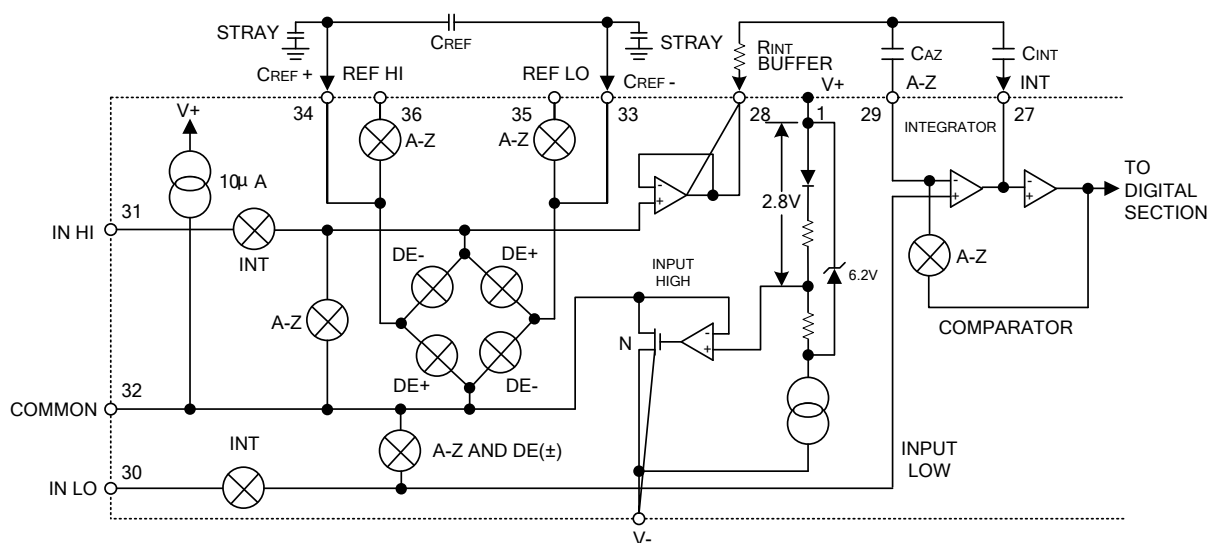

Fig.1 Analog Section
■ ELECTRICAL CHARACTERISTICS ($T_A=25^{\circ}\text{C}$, $f_{\text{CLOCK}}=48\text{kHz}$, measured by the circuit of Fig.1)
Fig.1 shows the Analog Section for the UTC **7106**. Each measurement cycle is divided into three phases. They are (1) auto-zero(A-Z), (2) signal integrate (INT) and (3) de-integrate(DE).
Figure 1 is a detailed block diagram of the 7447B BCD-to-7-segment decoder/driver. At the top, a 7-segment display is shown with segments labeled a through g. Below the display, the internal logic is detailed. It includes four counters: 1000's COUNTER, 100's COUNTER, 10's COUNTER, and 1's COUNTER. These counters feed into three 7 SEGMENT DECODE blocks, which then feed into a LATCH block. The LATCH block outputs to an LCD PHASE DRIVER, which drives the display segments. A ÷200 divider is connected to the BACKPLANE. A typical segment output circuit is shown in a callout, illustrating a totem-pole configuration with a 0.5mA source and a 2mA sink, connected to V+ and INTERNAL DIGITAL GROUND. The pinout is shown at the bottom, with pins 1 (V+), 26 (V-), 37 (TEST), 38 (OSC 3), 39 (OSC 2), and 40 (OSC 1). A note at the bottom states: "* THREE INVERTERS ONE INVERTER SHOWN FOR CLARITY".